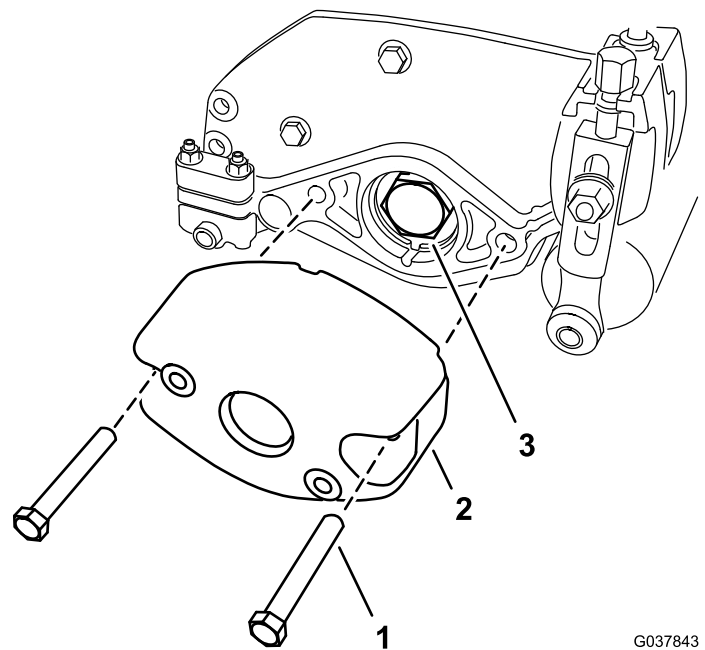

Figure 4
1. Remove the 2 bolts (5/16 x 2-1/4 inches) from the 2 nuts (held captive by the side plate) securing the counterweight on the side plate of the cutting unit. Remove the counterweight (Figure 4).
3. Remove the bearing nut from the reel shaft (Figure 4).